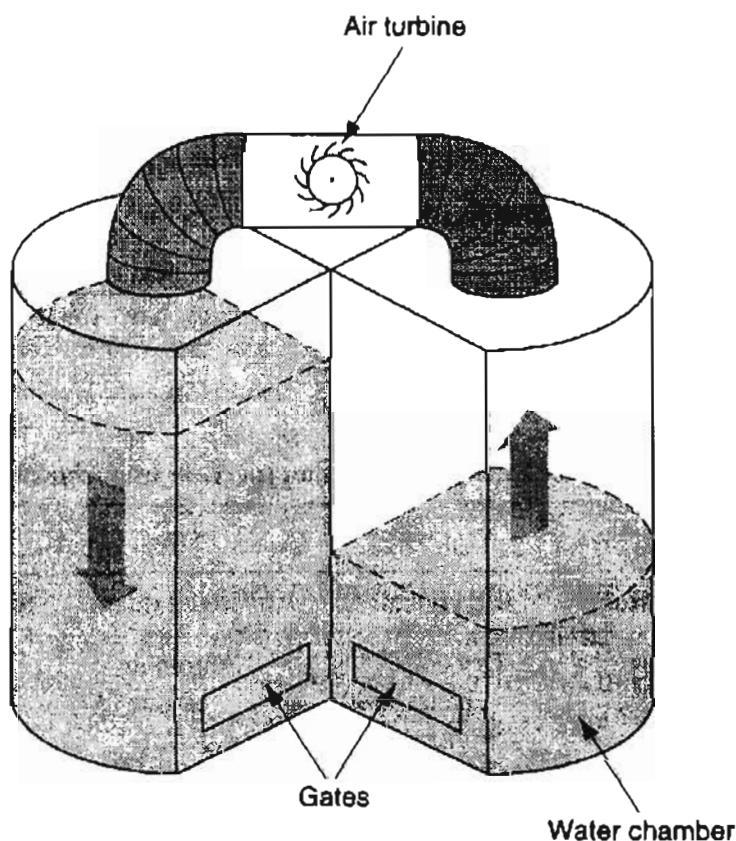

Figure DP27.1P1
1. Discuss the feasibility of the following novel proposal as a way to extract energy from river flow that would not require large dams. See Figure DP27.1P1. The apparatus consists of a pair of tall chambers connected at the top by a tube containing an air turbine the diameter of a dinner plate. As the water flows through the system, one chamber fills, pushing air past one side of the turbine; the other side empties, sucking air from the tube.